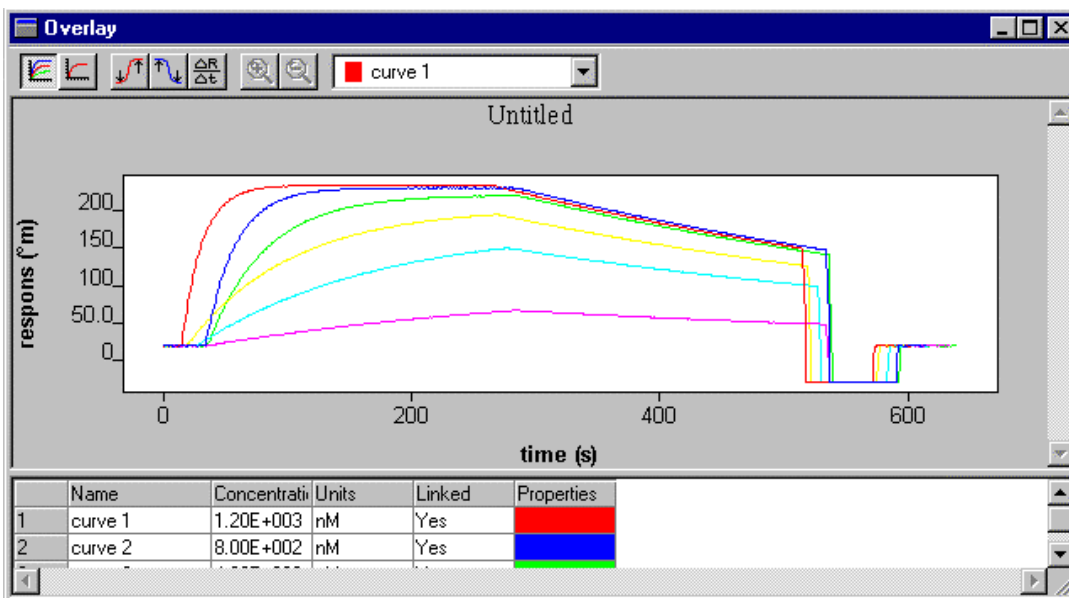

Figure 2.10: Overlay plot of 6 curves. Injections have not been synchronized yet.
- The injection times should be synchronized according the procedure described for figure 2.10.